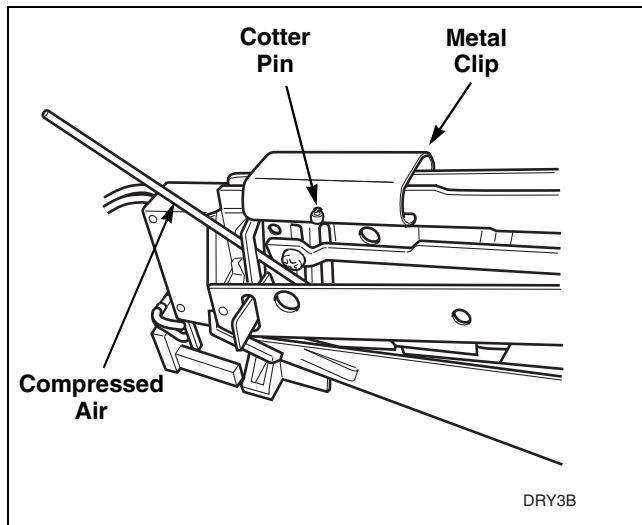

Figure 18
- If lint is preventing coins from rolling through coin drop, blow compressed air through coin drop, and along the side of the coin drop. Refer to *Figure 18*.
- Remove cotter pin from top of drop. Refer to *Figure 18*. Save pin for reinstallation when cleaning is complete.
- Move metal clip closer to sensor so that it comes off frame. Refer to *Figure 18*.